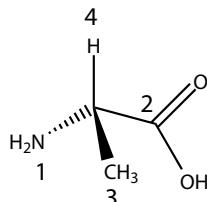

Figure 6.7 L-Alanine.
On the alanine molecule in Figure 6.7, the four items attached to the asymmetric carbon are hydrogen (atomic number = 1), carbon (6), carbon (6), and nitrogen (7). One of the carbons is $-\text{CH}_3$; the atoms attached to it are hydrogen with atomic number 1, the other carbon is $-\text{COOH}$; the atoms attached to it are oxygen with atomic number 8. The priorities are $-\text{NH}_2$ (first), $-\text{COOH}$ (second), $-\text{CH}_3$ (third), and $-\text{H}$ (fourth).